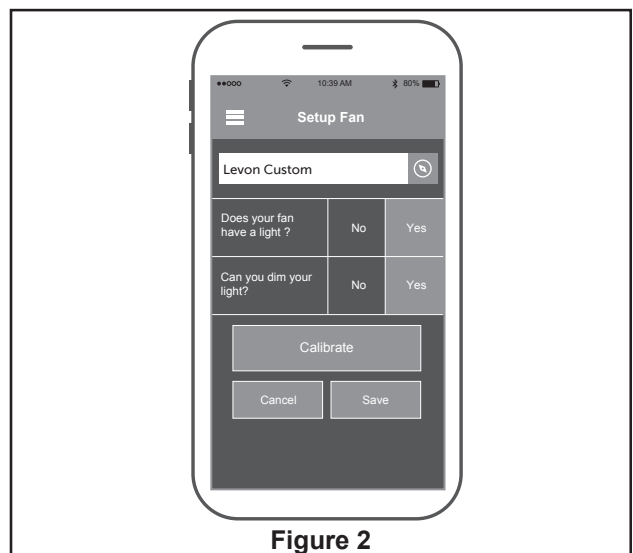

Figure 2
2. Name your fan, answer light questions, choose save and your fan will be ready to operate. (Figure 2)